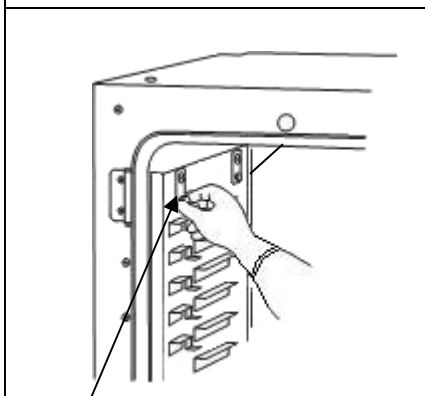

Fig. 4
5. Remove the screw securing the clamp for the side support. (Fig. 4)
5. As shown in Fig. 4, set the tray with the edge bent up. If the tray is set in the wrong direction, it may not be level and may become unstable.